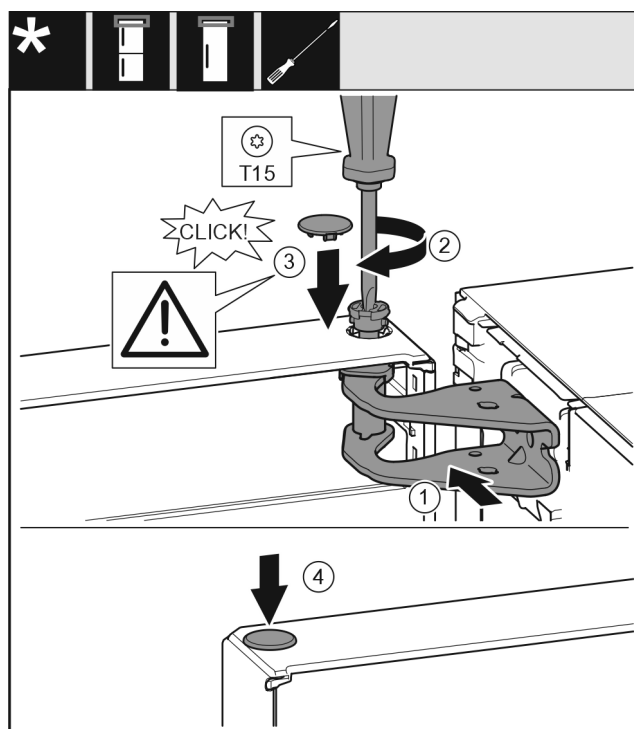

Fig. 21
- Align the top of the door with opening in the bearing bracket. Fig. 21 (1)
- Insert the bolt and tighten with a T15 screwdriver. Fig. 21 (2)
- Fit the protective cover to protect the door: Insert the protective cover and check that it lies flush on the door. If not, insert the bolt fully. Fig. 21 (3)
- Insert the plugs. Fig. 21 (4)